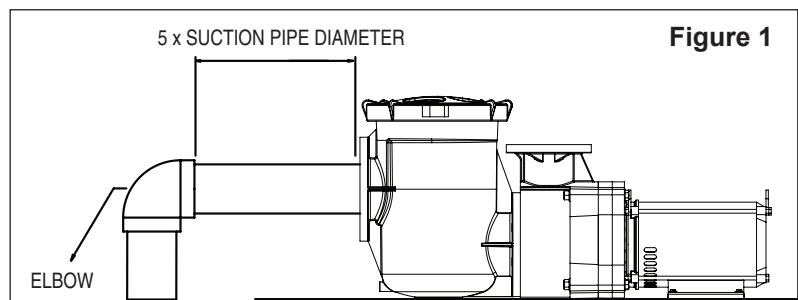

Figure 1
For most installations Pentair recommends installing a valve on both the pump suction and return lines so that the pump can be isolated during routine maintenance. However, we also recommend that a valve, elbow or tee installed in the suction line should be no closer to the front of the pump than five (5) times the suction line diameter. See **Figure 1**.